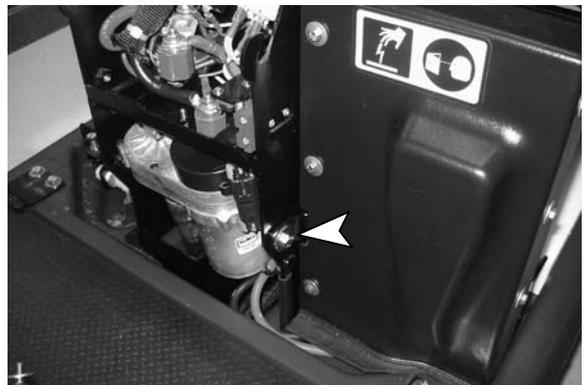

Fig. 4
7. Remove the bolt and flat washer that connect the control panel mount to the actuator mount (Figure 4).